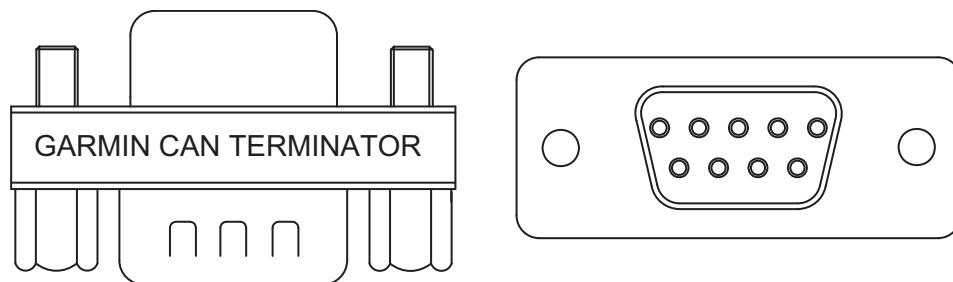

Figure 2-10 CAN Bus Termination (011-02887-00) for GAD 29, GEA 24, GMA 245, GMU 11, GPS 20A, GSU 25, and G5
- The GAD 29, GEA 24, GMU 11, GPS 20A, GSU 25, and G5 installation kits provide a 9-pin termination adapter that provides termination when attached to the device's main connector. The termination adapter contains a 120 Ω resistor that is connected between pins 1 and 2 (Figure 2-10).